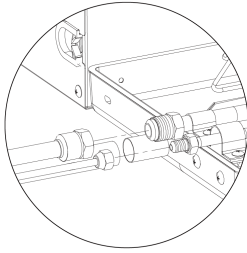

Fig. 13
- (1) Remove pipe cover and pipe plug.
- (2) Direct the flared part of copper pipe to the center of screwed joint. Twist on the flared nut tightly by hand, as in Fig.13 (Make sure indoor pipe is correctly connected. Improper location of the center will prevent flared nut from being securely twisted. Thread of nut will get damaged if the flared nut is twisted forcibly).